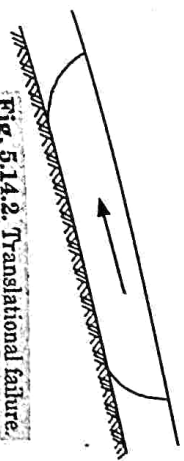

Fig. 5.14.2. Translational failure.
- ii Translational failure occurs in an infinite slope along a long failure surface parallel to the slope, as shown in Fig. 5.14.2.